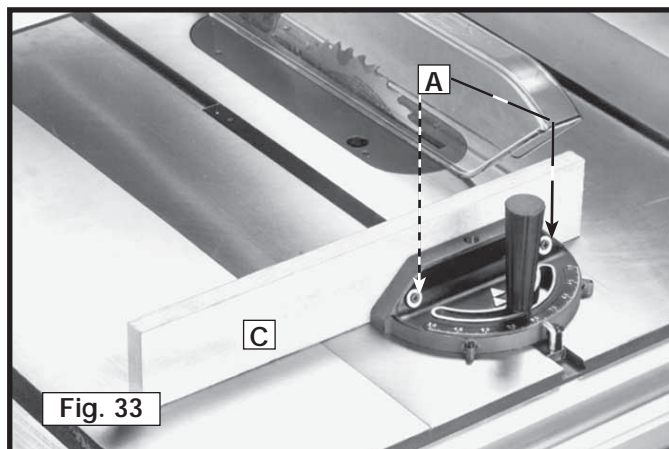

Fig. 33
For added safety, you can attach an auxiliary wood facing to the miter gauge (Fig. 33). Make this facing at least 1" higher than the maximum depth of cut and extend it at least 12" either side depending on which miter gauge slot you use. Fasten this facing (C) to the front of the miter gauge with two wood screws through the miter gauge body (A) and into the facing.